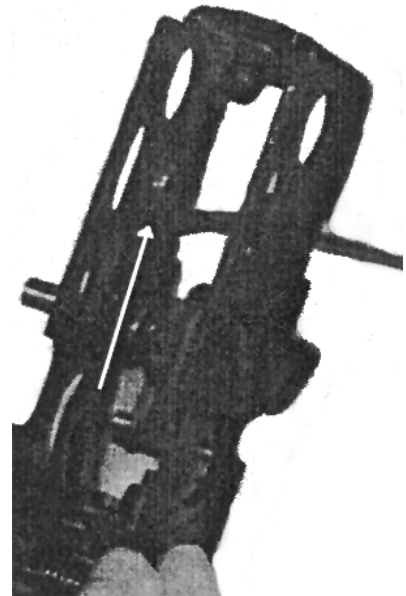

Figure 44
- Using a spring mandrill, from the bottom of the housing, push the *dead leg* (the forward hooked end) of the *trigger return spring* up until it rests on the left side anvil. This will put tension on the *trigger*. (Fig. 44)